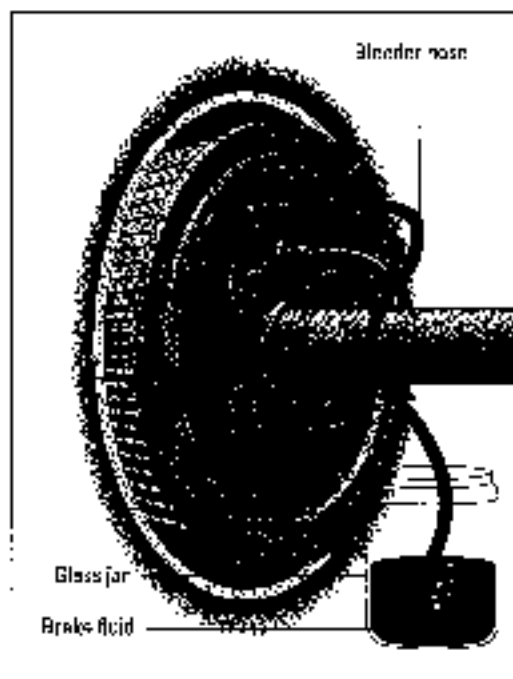

Figure 18-14:
3. If you have a small piece of flexible hose that fits over the end of the bleeder screw, attach it and place the end of the hose in the jar. Then fill the jar with brake fluid to cover the end of the hose (see Figure 18-14).